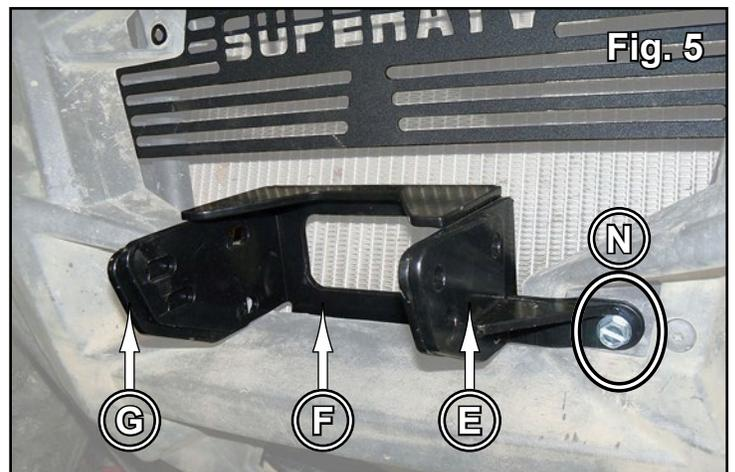

Fig. 5
7. Install Right Bracket (G) and Left Bracket (E) to machine with 5/16" x 3/4" Lg. Self Tapping Screws (N). See Fig. 5.